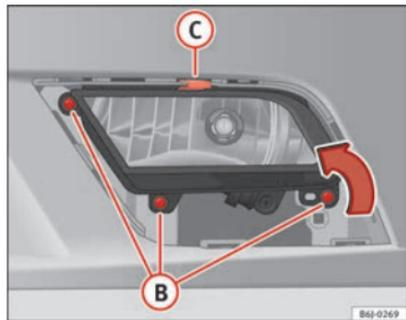

Fig. 159 Fog lights
- Remove the bolts (3x) => fig. 159 (B) to remove the fog light.
- Remove the metal clip situated on the upper part of the fog light pulling towards the exterior of the vehicle => fig. 159 (C). ■